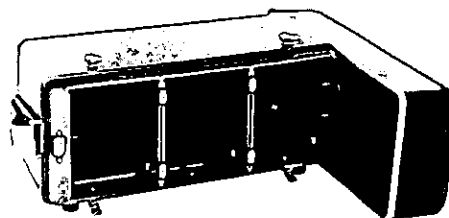

Figure 2. The 11046A Combining Case encloses two one-half module or three one-third module instruments. Included is a splash-proof cover and storage space.
2. Those units which do not need the full rack width (Figure 2). These instruments are standardized at one-half or one-third the width of the full module. Because of their size they are easily portable and can be used readily in the field, as well as on the bench. In addition, adapter frames are available to mount these units in the standard EIA racks. The HP 1051A, 1052A Combining Cases also can be used for a multi-instrument package that is both portable and easily rack mounted with the hardware provided. Both combining cases and rack adapter frames use blank panels to fill areas not used by instruments and accept one-third width drawers for convenient storage of leads,
- 11046A** (Fig. 2) accepts third- or half-module instruments.